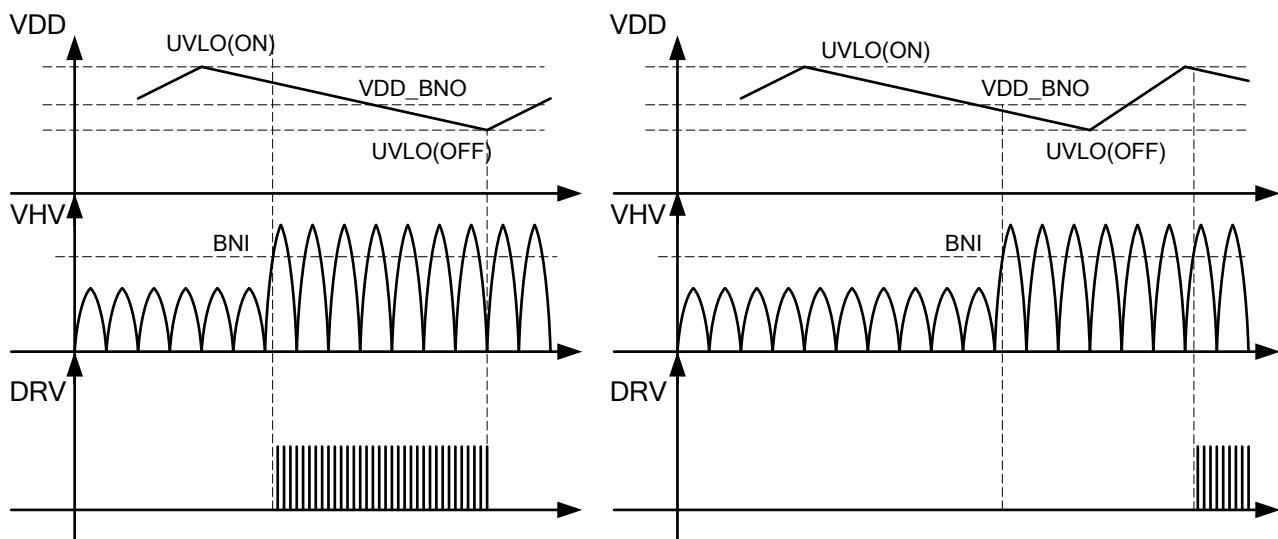

Fig. 5.2
The WT7162RH features brown in/out protection on HV pin. When HV pin voltage (VHV) goes above brown-in threshold (BNI) and VDD > VDD_BNO, the controller can start immediately. Otherwise, the controller actually starts the next time VDD reaches UVLO (ON), as shown in Fig. 5.2. When VHV goes below brown out threshold (BNO) for more than a de-bounce time, the controller will stop switching.